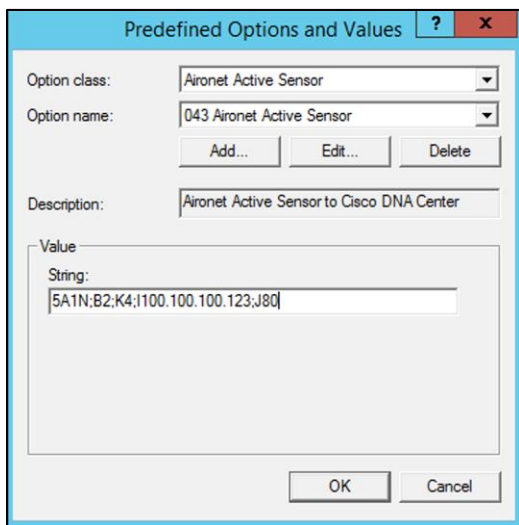

Figure 36.
5. Within the **String** input field, enter the following: 5A1N;B2;K4;I<Cisco DNA Center IP>;J<Port Number>, then click **OK (Figure 36)**.